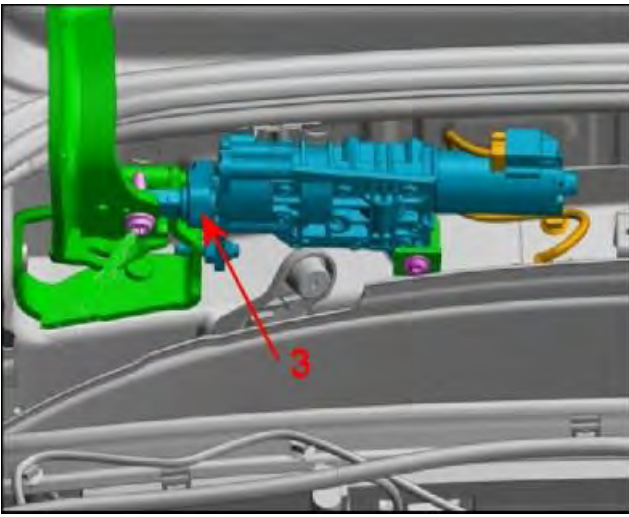

Figure 3
- With the roof trim panel removed the motor output link can be inspected - 3 - (see Figure 3)